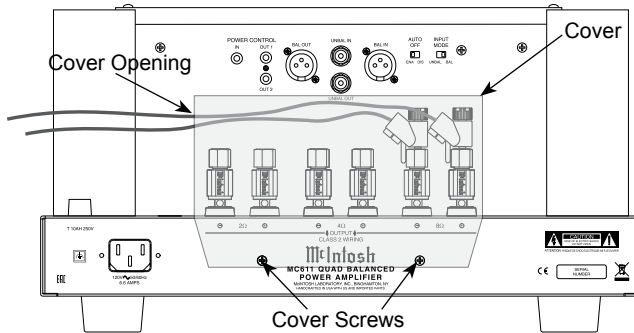

Figure 5 (Inside USA and Canada)
cover opening on the left side. Refer to figure 5.
Note: The illustration in figure 5 is connections for 8Ω (ohms) Loudspeakers.
- Attach the Terminal Connections Cover to the MC611 Rear Panel with the previously removed Screws. Refer to figure 5.